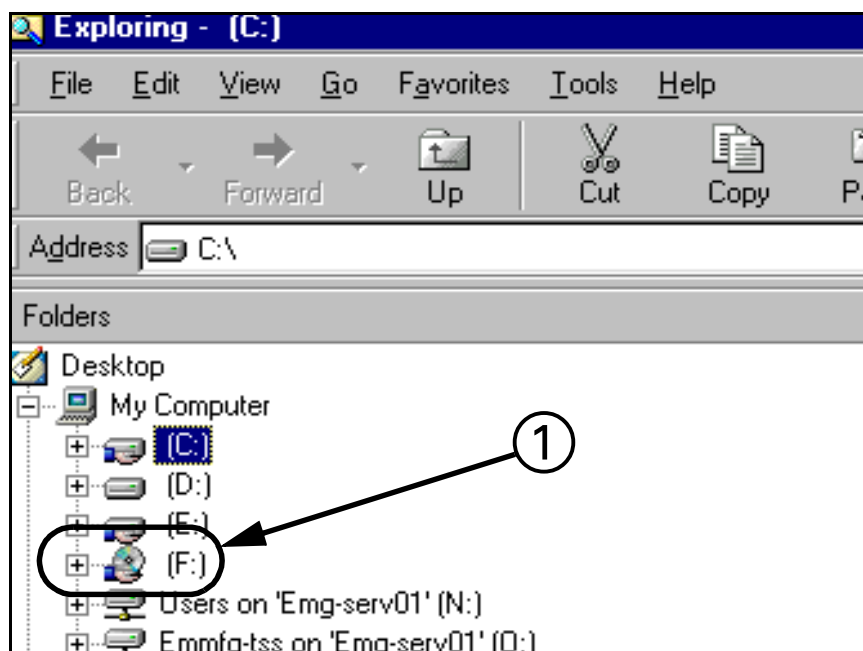

Figure 8-9 Explorer Window
- 3) Click on *CDROM* icon (① in Figure 8-9) in left pane of "Explorer" window.